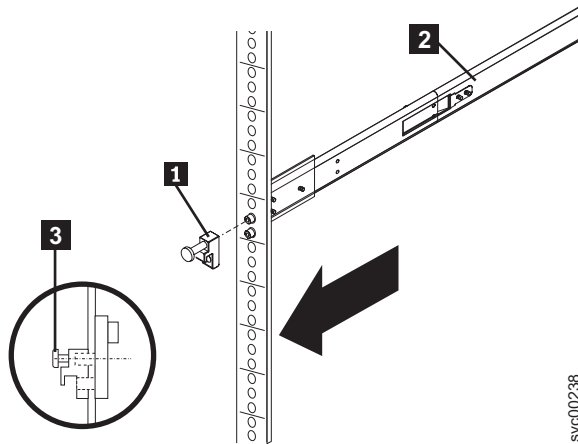

Figure 22. Attaching the latch strike to the front of the slide rail
5. Attach one latch strike **1** to the front of the right rail **2**, as shown in Figure 22, using the captive screw **3**. Turn the screw only finger tight. Attach the other latch strike to the front of the left rail in the same way.